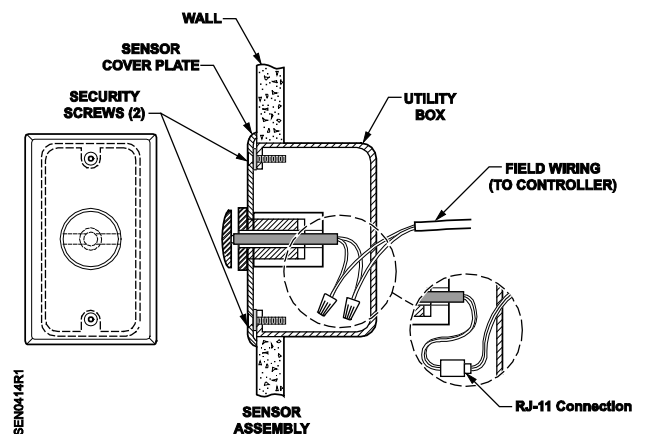

Figure 1. Installing the Sensor.
1. Pull the field wiring from the utility box and connect it to the sensor. See Figure 1.